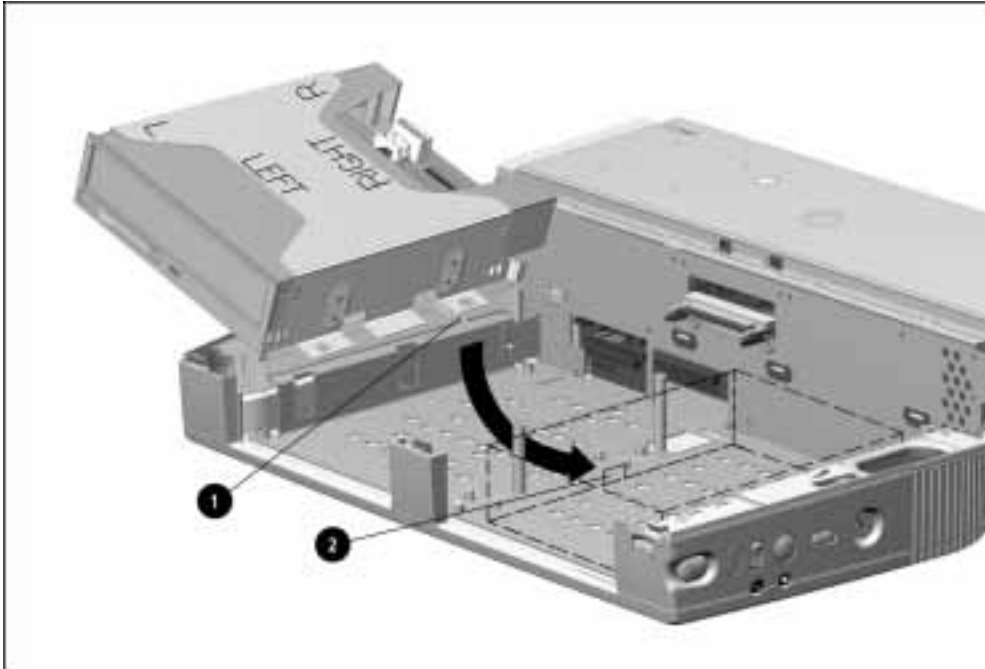

Figure 5-26. *Installing the Half-Height MultiBay Adapter Assembly*
9. Swing the drive cage/half-height MultiBay adapter assembly into the base assembly from left to right. Make sure the security extension bar ❶ extends to the right. If an Armada 7000 Half-Height MultiBay Adapter is being installed in the left half-height bay, the bar must fit into the channel ❷ on the MultiBay installed in the right half-half bay. Align the holes on the drive cage with the alignment pins in the base assembly (Figure 5-26).